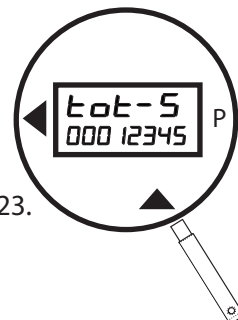

Figure 23.
- As each digit is activated, pass the wand over the ▲ to increment to the desired number (Figure 23).